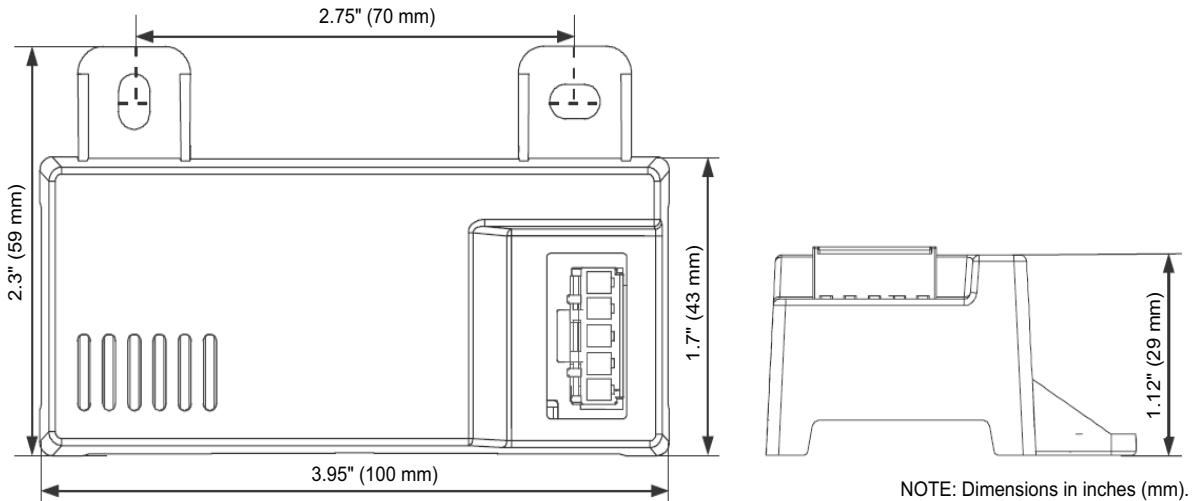
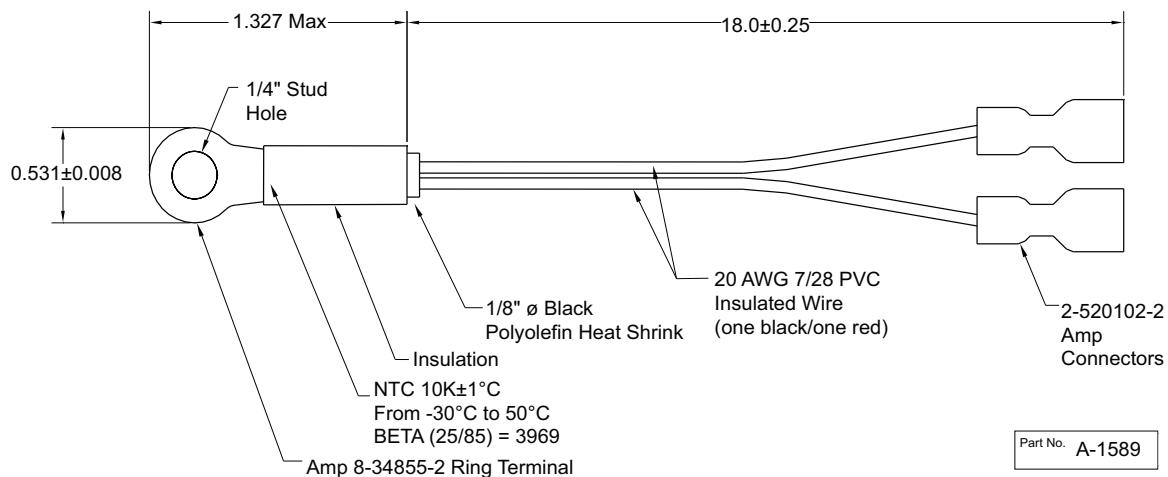
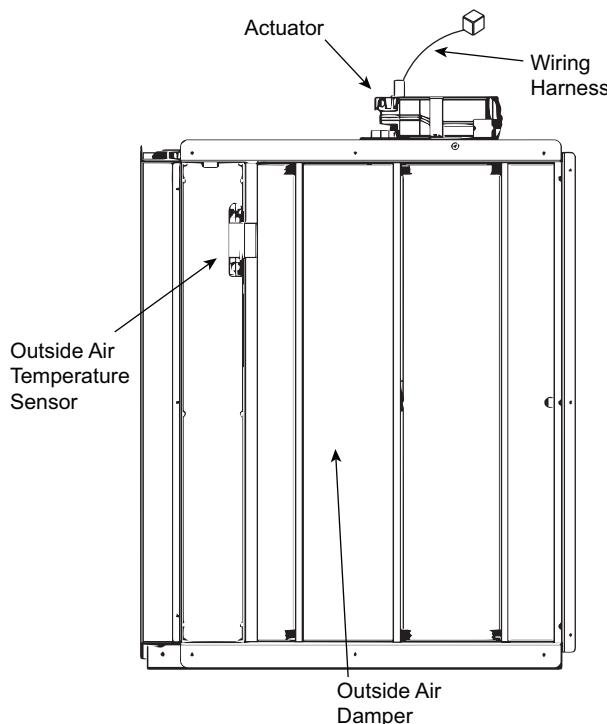

Fig. 69 — HH57LW001 Dimensional, Connection and Switching Information
Fig. 70 — HH79NZ039 Dry Bulb and Mixed Air Sensor Wiring
Fig. 71 — EconomizerONE Component Locations (CRECOMZR108A00 Shown)
When using the HH57LW001 enthalpy sensor (see Fig. 69) for outside air changeover, the existing HH79NZ039 dry bulb sensor (see Fig. 70) must be removed. The enthalpy sensor will be mounted in the same location as the dry bulb sensor (see Fig. 71). When the enthalpy sensor's OA (Outside Air) temperature, enthalpy, and dew point are below their respective setpoints, the outside air can be used for free cooling. When any of these are above the setpoint, free cooling will not be available. Enthalpy setpoints are configurable and create an enthalpy boundary according to the user's input. For additional details, see Fig. 72-73 and Table 30.
The optional enthalpy control sensor (P/N: HH57LW001) communicates with the POL224 economizer controller using the 5-wire harness, 48TC005213. The HH57LW001 sensor can be used as a single outside air enthalpy, a differential return enthalpy, or a differential return temperature sensor. Refer to the base unit control wiring diagrams found earlier in this book to wire the HH57LW001 enthalpy sensor for each option. Use Fig. 69 and Table 32 on page 60 to locate the wiring terminals for each enthalpy control sensor.
Economizers are shipped standard with an HH79NZ039 outside air dry bulb sensor (see Fig. 70). System default setting (high temp limit) is 63°F (17°C) and has a range of 48°F to 80°F (9°C to 27°C). Sensor is factory installed on economizer.
If installing the optional HH57LW001 enthalpy sensor, the HH79NZ039 dry bulb outside air sensor must first be removed. Wire sensor to harness 48TC005213 and the (5) wires from the harness to the EconomizerONE harness in the return air chamber. Harness 48TC005213 has a 5-pin plug that connects directly to the HH57LW001 enthalpy sensor. Refer to the base unit control wiring diagrams earlier in this book for wiring connections. Refer to Fig. 69 and Table 32.